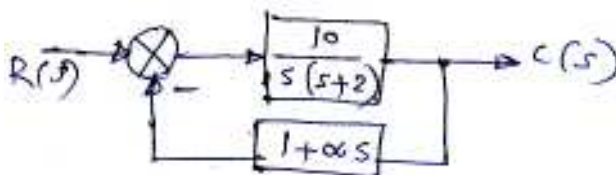

Fig. 4(b)
- b) The block diagram of a position control system with velocity feedback is shown in fig 4(b). Determine the value of α so that the step response has maximum overshoot of 10 percent. What is the steady state error ?